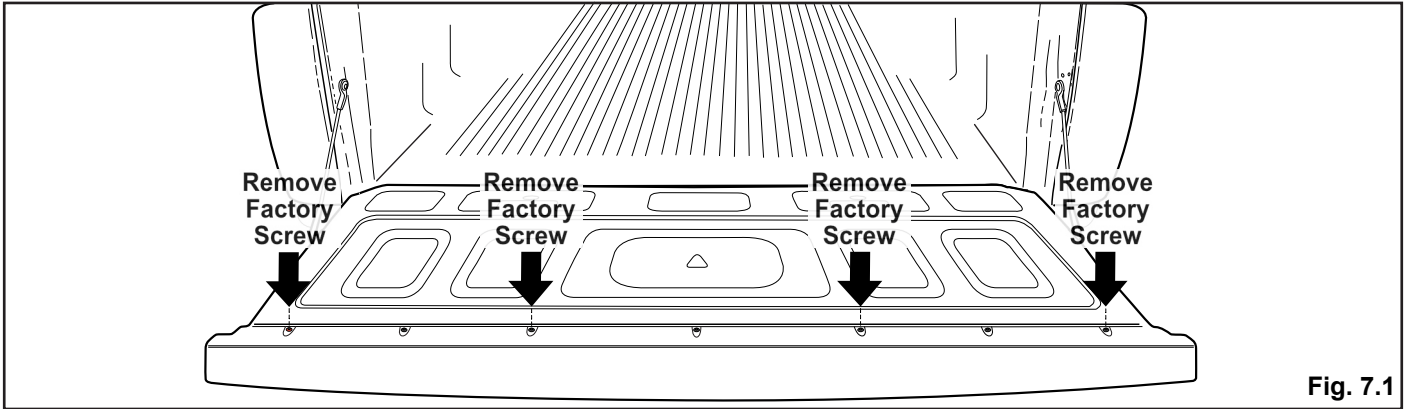

Fig. 7.1
- Place Tailgate Rail (E) in place, aligning it to the 4 screw holes that were removed in Fig. 7.1 and use 4 M6 screws (J) to attach the Tailgate Rail in place.